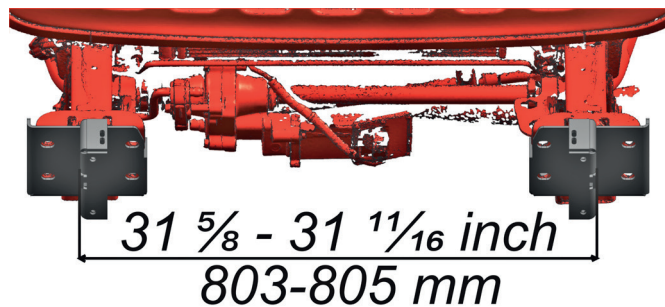

Fig. 9
9. Adjust the position of the brackets according to the distance in the figure (Fig. 9).